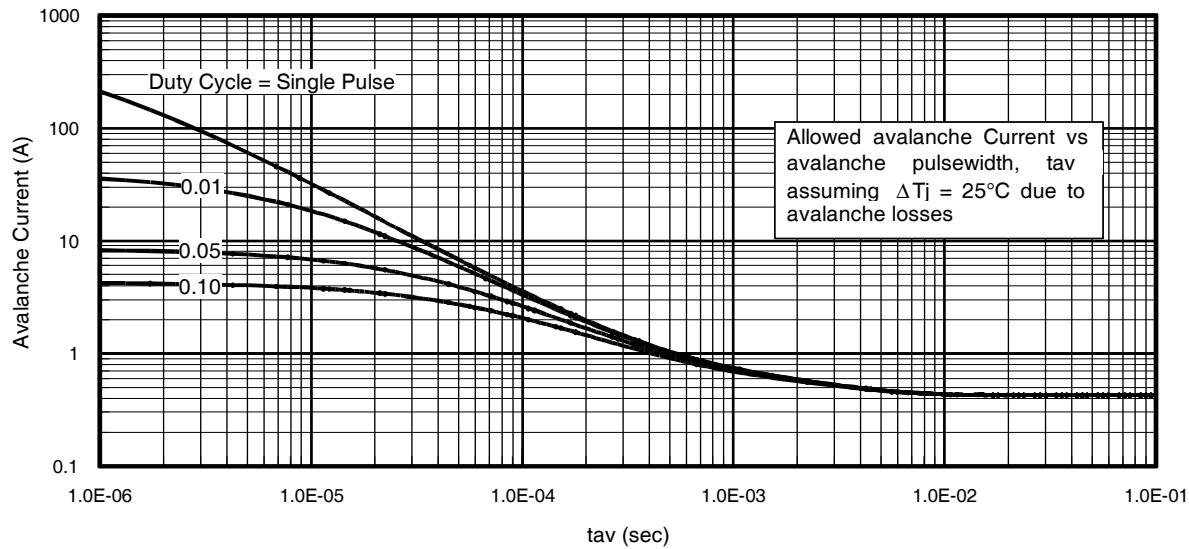

**Fig 11.** Maximum Effective Transient Thermal Impedance, Junction-to-Case
- ① Repetitive rating; pulse width limited by max. junction temperature. (See fig. 11).
- ② Limited by  $T_{J\text{max}}$ , starting  $T_J = 25^\circ\text{C}$ ,  $L = 0.11\text{mH}$ ,  $R_G = 25\Omega$ ,  $I_{AS} = 37\text{A}$ ,  $V_{GS} = 10\text{V}$ . Part not recommended for use above this value.
- ③  $I_{SD} \leq 37\text{A}$ ,  $di/dt \leq 920\text{A}/\mu\text{s}$ ,  $V_{\text{DD}} \leq V_{(\text{BR})\text{DSS}}$ ,  $T_J \leq 175^\circ\text{C}$ .
- ④ Pulse width  $\leq 1.0\text{ms}$ ; duty cycle  $\leq 2\%$ .
$Z_{thJC}(D, t_{av})$  = Transient thermal resistance, see figure 11)